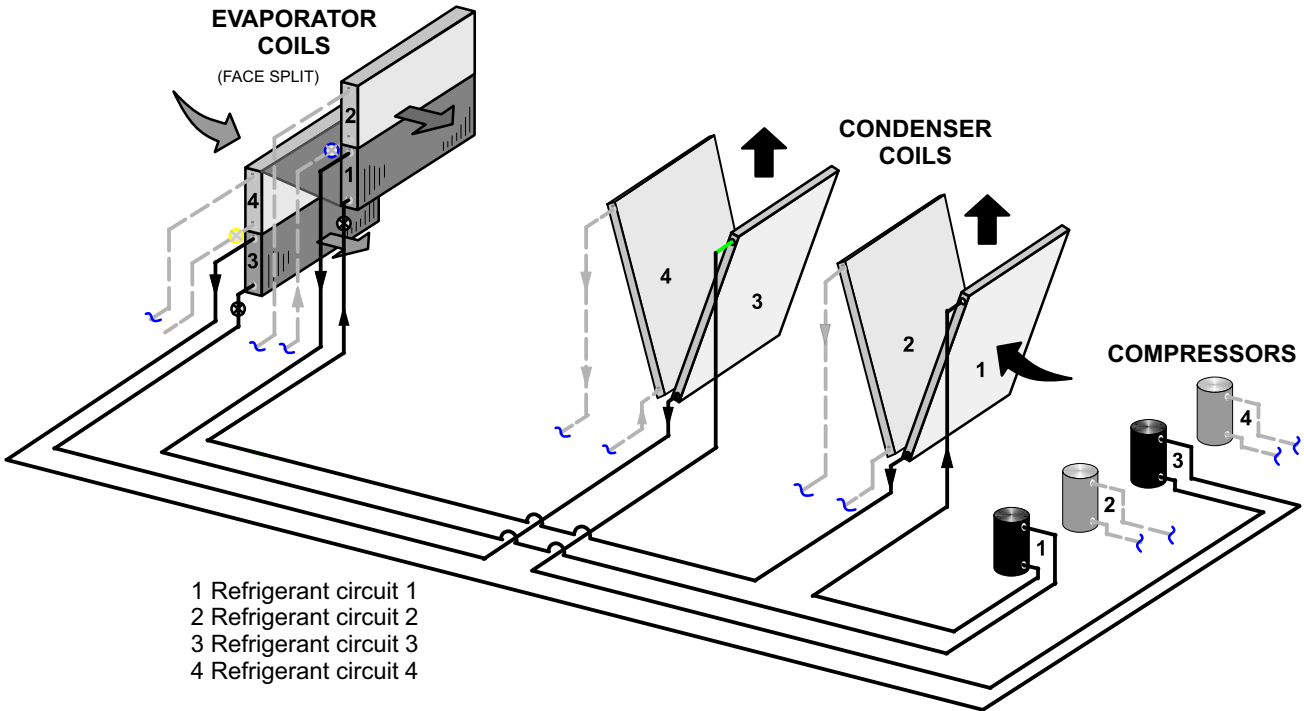
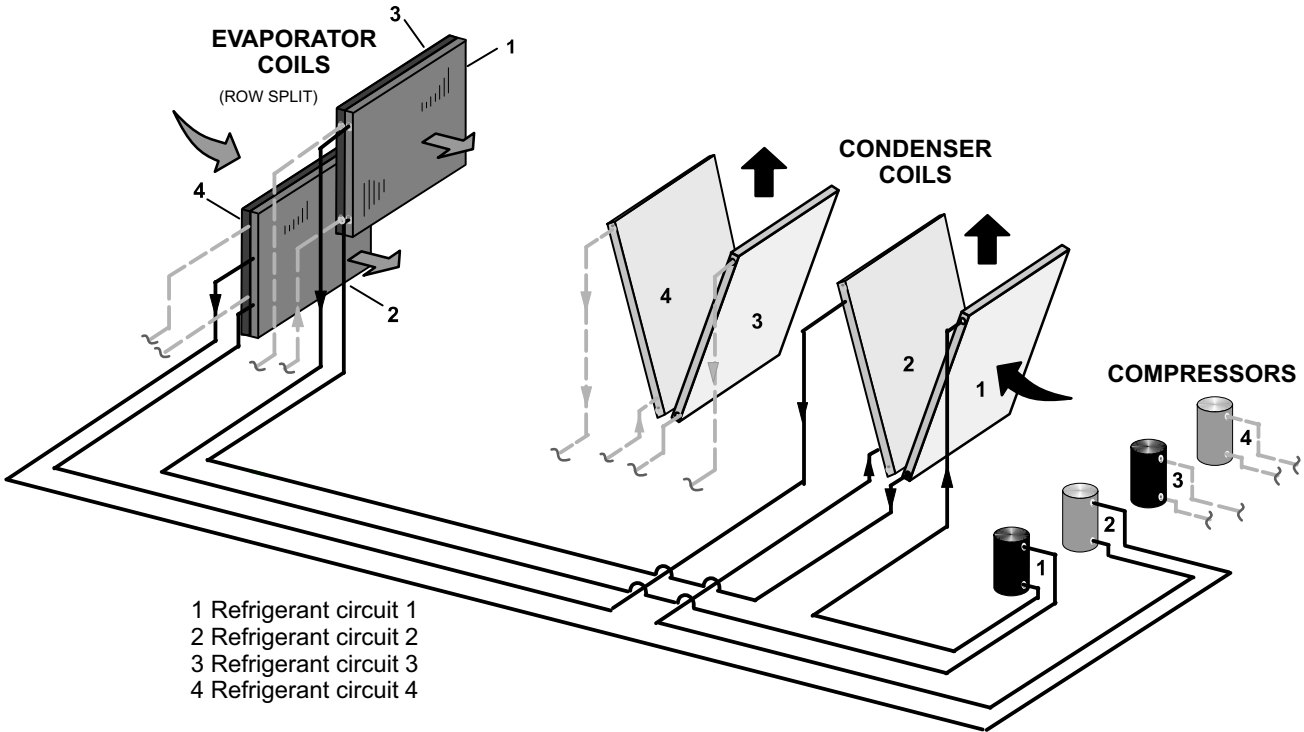

FIGURE 23
FIGURE 24
- 3- Each refrigerant circuit is separately charged with R-410A refrigerant. See unit rating plate for correct amount of charge. See figure 23 for refrigerant routing on units equipped with a constant air volume supply air blower. See figure 24 for refrigerant routing on units equipped with a variable air volume supply air blower. See figure 47 for refrigerant routing on units equipped with a reheat coil (Humiditrol).